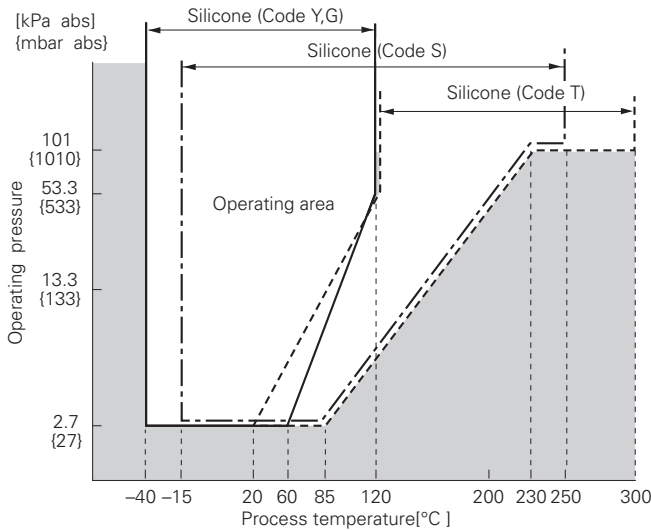
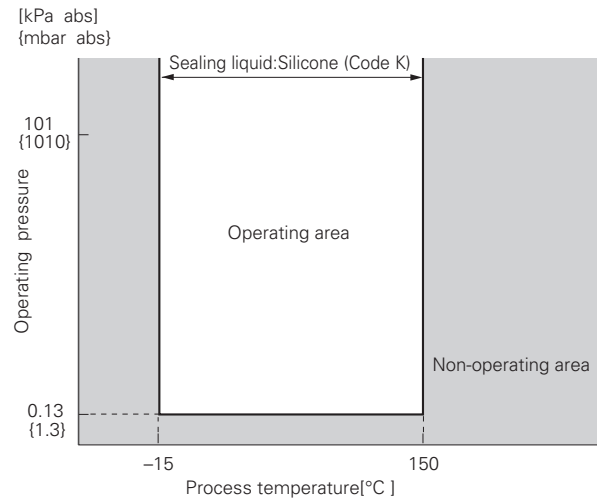

Fig. 1 Relation between process temperature and operating pressure
Fig. 2 Relation between process temperature and operating pressure
- Vacuum service: Special silicone oil and filling procedure are applied. See Fig.1 and Fig.2